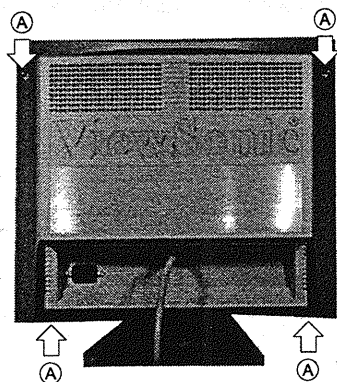

Figure 2-1 Remove the Rear Cover
2. Remove the four screws at the rear of the display. Refer to the figure 2-1 (A).